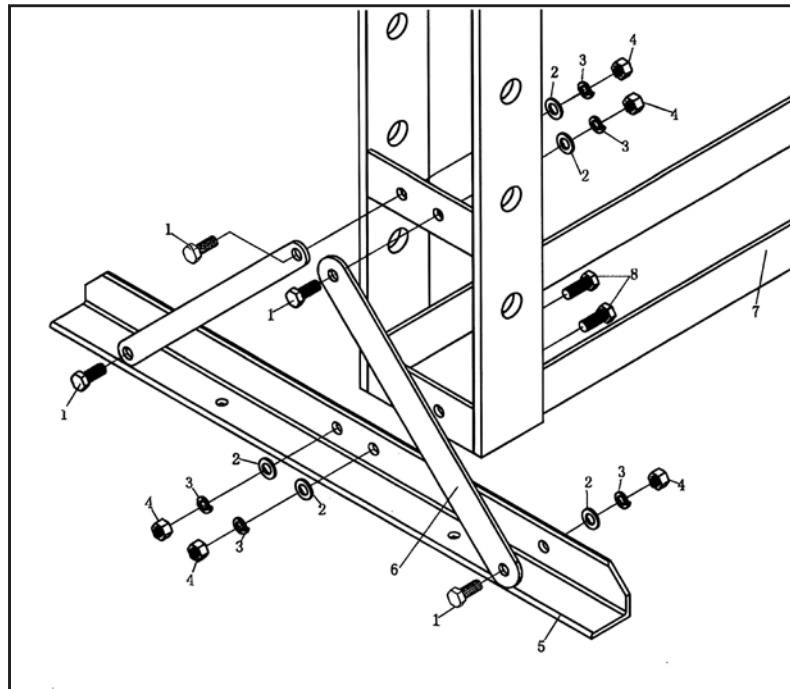

Figure 1
- The Bed Frame (11) is put at the bottom for convenient for packaging and transport.
- **Attach the Foot Section (05) and Support (06) to left and right Connecting Plate using Bolt (01), Washer (02), Lock Washer (03) and Nut (04). (figure 1)**
- Remove Gauge Plug, insert Nylon Ring (23) into Gauge Fitting and thread in Pressure Gauge (13) until tight. Ensure entire assembly is tight or it may leak.